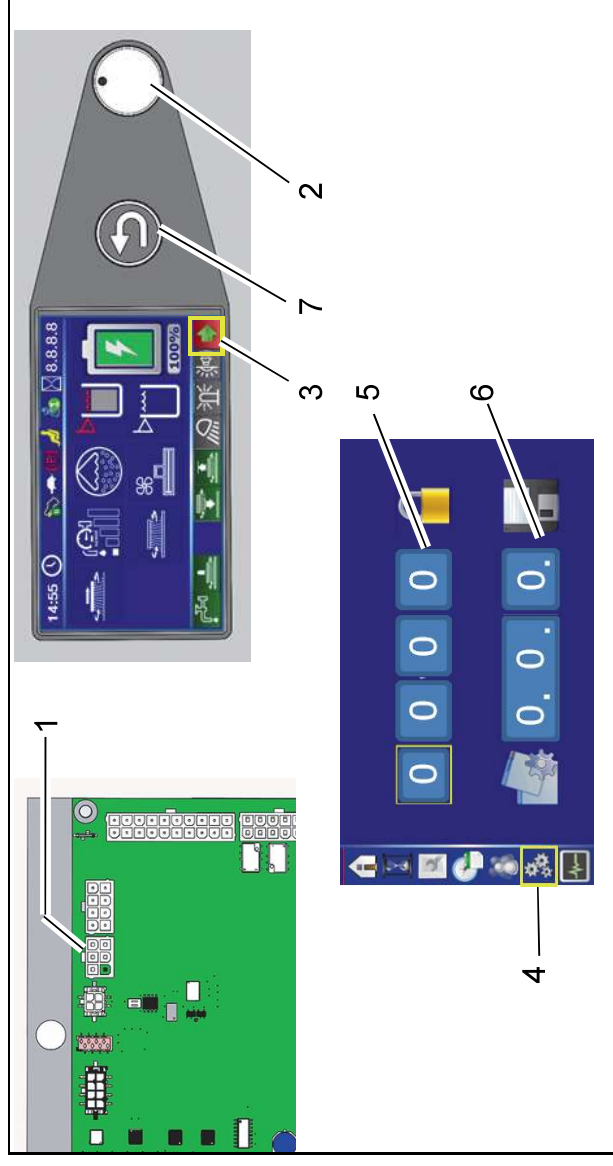

Fig. 5
Plug diagnosis plug into slot X20 of controller A1 (Fig. 5/1).
2. Select the arrow soft key (Fig. 5/3) on the control panel using the turn-push knob (DDS)(Fig. 5/2) and press to access the sub-menu.
3. Select the configuration menu in the sub-menu (Fig. 5/4).
4. Enter the 4-digit code in the configuration menu at the top (Fig. 5/5):
5. In the configuration menu at the bottom (Fig. 5/6), set the value of the option and save by pressing the DDS. After confirming the last digit, OK? appears. Press DDS again to save the value. Saved value is displayed in green. If the value is not to be saved, exit menu using the return key (Fig. 5/7).